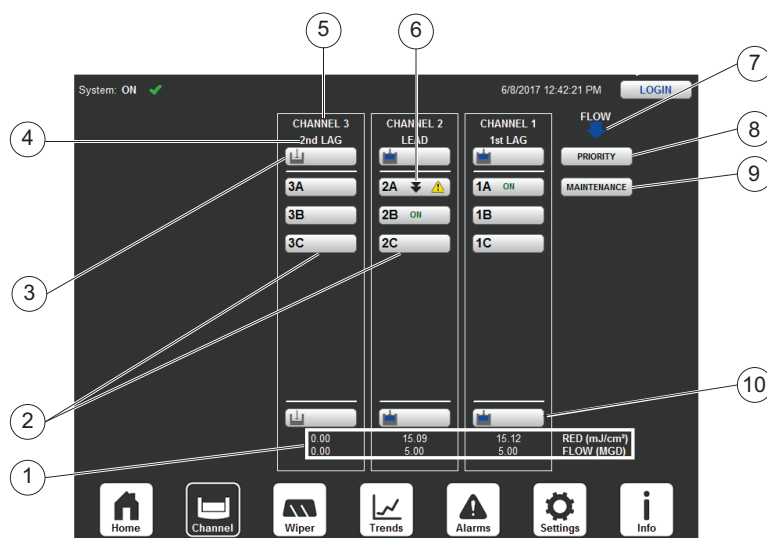

Figure 28 UV Channel Overview Screen
1. Press PRIORITY (Figure 28, Item 8).
Inlet gates may be automatically controlled via the SCC or Plant SCADA. If the gates are automatically controlled, a gate icon will be displayed on the UV Channel Overview Screen (Figure 28, Item 4).
Outlet gates may be automatically controlled via the SCC or Plant SCADA. If the gates are automatically controlled, a gate icon will be displayed on the UV Channel Overview Screen (Figure 28, Item 10).
1. Press the Outlet Gate button (Figure 28, Item 10).
1. Select the “MAINTENANCE” button on the UV Channel Overview Screen (Figure 28, Item 9).